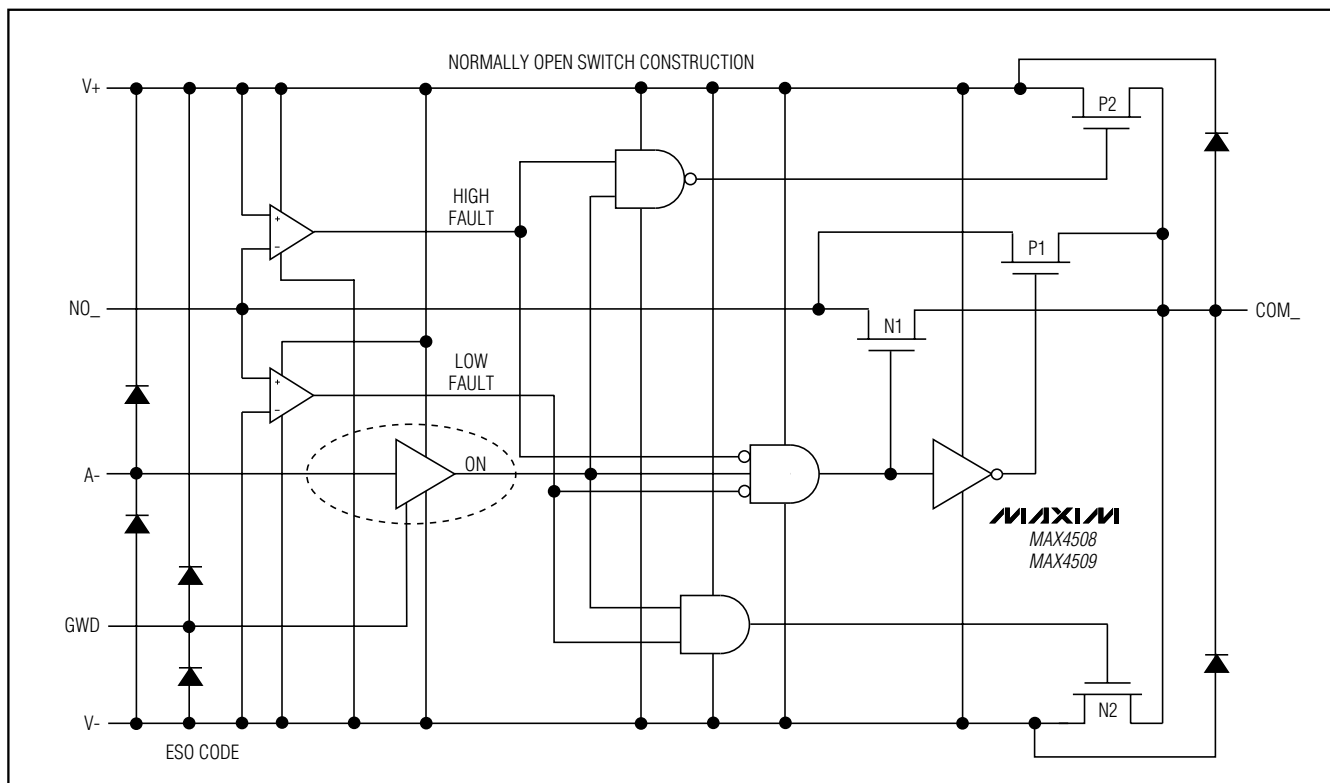

Figure 1. Functional Diagram
Figure 1 shows the internal construction, with the analog signal paths shown in bold. A single normally open (NO) switch is shown. The analog switch is formed by the parallel combination of N-channel FET N1 and P-channel FET P1, which are driven on and off simultaneously, according to the input fault condition and the logic level state.
Two comparators continuously compare the voltage on the NO₋ pin with V₊ and V₋ supply voltages. When the signal on NO₋ is between V₊ and V₋, the multiplexer behaves normally, with FETs N1 and P1 turning on and off in response to A₋ signals (Figure 1). The parallel
When the signal on NO₋ exceeds V₊ by about 150mV, the positive fault comparator output goes high, turning off FETs N1 and P1 (Figure 1). This makes the NO₋ pin high impedance, regardless of the switch state. If the switch state is "off," all FETs turn off, and both NO₋ and COM₋ are high impedance. If the switch state is "on," FET P2 turns on, clamping COM₋ to V₊.
When the signal on NO₋ goes about 150mV below V₋, the negative fault comparator output goes high, turning off FETs N1 and P1 (Figure 1). This makes the NO₋ pin high impedance, regardless of the switch state. If the switch state is "off," all FETs turn off, and both NO₋ and COM₋ are high impedance. If the switch state is "on," FET N2 turns on, clamping COM₋ to V₋.
FETs N2 and P2 can source about ±10mA from V₊ or V₋ to the COM₋ pin in the fault condition (Figure 1). Ensure that if the COM₋ pin is connected to a low-impedance load, the absolute maximum current rating of 30mA is never exceeded, either in normal or fault conditions.